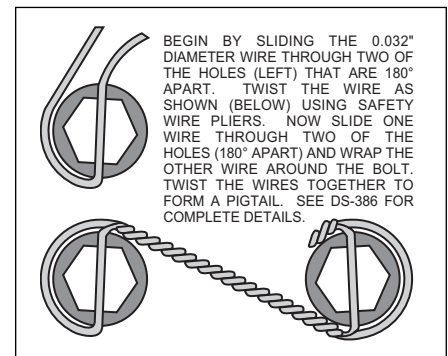

Figure 6. Safety Wire Diagram
- Slide the caliper mounting bracket kit assembly (1) onto the housing flange and then insert the axle assembly through the center hole of the caliper mounting bracket assembly (1). Align the bearing retainer (2) with the four holes inside the bracket assembly (1) and secure using the stock Original Equipment Manufacturer (OEM) bolts and nuts. Stock OEM hex nuts that retain the caliper mounting bracket assembly (1) and retainer (2) should be on the wheel side of the bracket. Apply red *Loctite*® 271 to the stock OEM bolt threads and torque to OEM specifications. Make sure the heads of the caliper mounting bracket assembly (1) insert nuts are **FACING OUTWARD TOWARDS THE WHEEL.**
- Align the correct hole pattern in the rotor (3) with the stud pattern on the axle flange. **NOTE:** Some OEM and after market axles come with stud sizes larger than 0.50" diameter. Verify stud size and have a qualified machine shop drill the bolt circle of the rotor to the correct stud size, if necessary. Slide the rotor (3) over the wheel studs covering the mounting bracket assembly (1) and against the axle flange face.
- NOTE:** Please reference the caution statement at the beginning of the assembly instructions. **WITH THE BLEED SCREWS POINTING UP,** mount the caliper (4) over the rotor (3) and onto the caliper mounting bracket (1) using lock washers (5) and mounting bolts (6). View the rotor through the top opening of the caliper. The rotor should be aligned in the center of the caliper. If not, adjust the caliper by using 0.032 inch shims (7) by placing them between the caliper mounting bracket (1) and the caliper (4). Apply red *Loctite*® 271 to the mounting bolt threads (6), torque to 30 ft-lb. Safety wire the caliper mounting bolts (6) using standard 0.032 inch diameter stainless steel safety wire as shown in Figure 6. Please refer to Wilwood's data sheet DS-386 (available at [www.wilwood.org/ds386.pdf](http://www.wilwood.org/ds386.pdf)) for complete safety wire installation instructions.